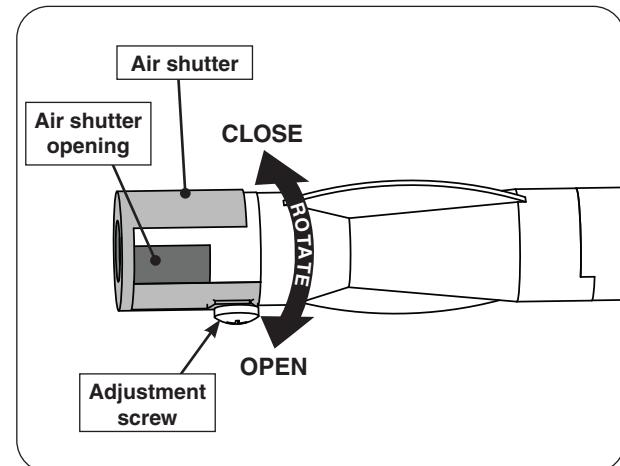

Fig. 35-2 Side burner air shutter adjustment detail
2. Loosen the adjustment screw with a screwdriver, then carefully rotate the shutter to open or close it. See Fig. 35-2 for details.